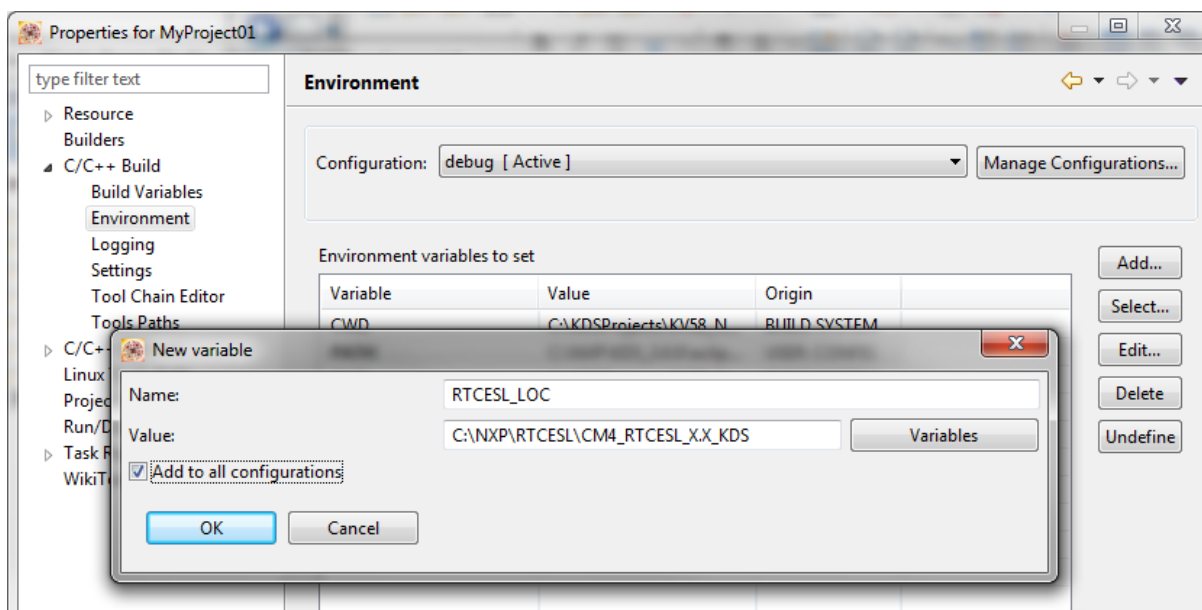

Figure 1-16. Environment variable
8. In the dialog that appears (see Figure 1-16), type this variable name into the Name box: RTCESL_LOC.
10. Tick the Add to all configurations box to use this variable in all configurations. See Figure 1-16.